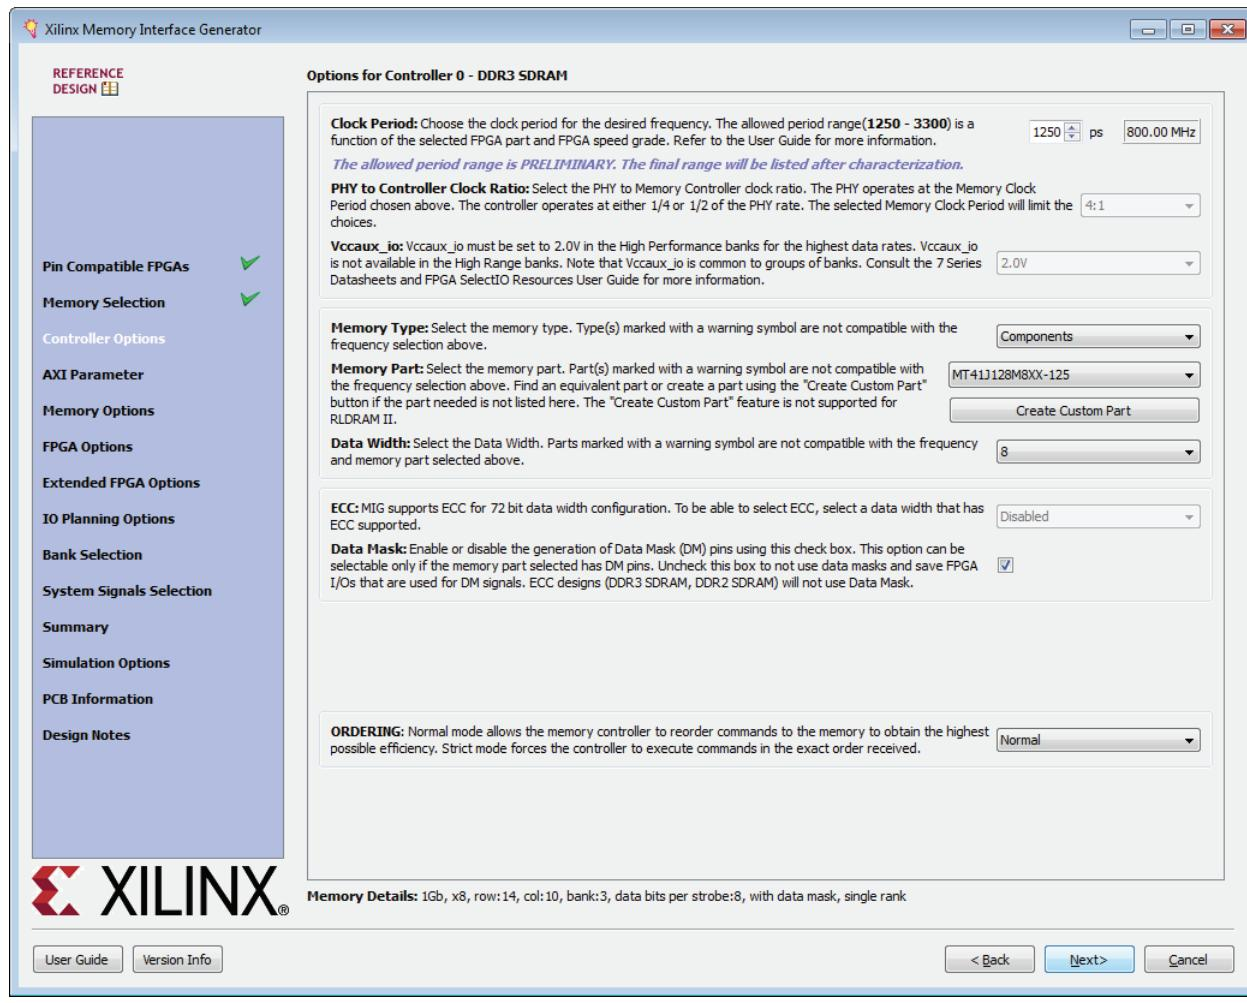

Figure 1-11: Controller Options Page
This page shows the various controller options that can be selected (Figure 1-11).
- **Memory Details** – The bottom of the Controller Options page (Figure 1-11, page 21) displays the details for the selected memory configuration (Figure 1-12).